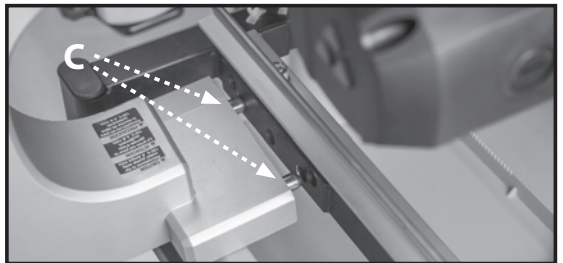

FIGURE 6
1. Position the saw arm assembly (5) so that the two pins (C, Fig. 6) on the mounting plate align with the two middle holes in the main frame (2)